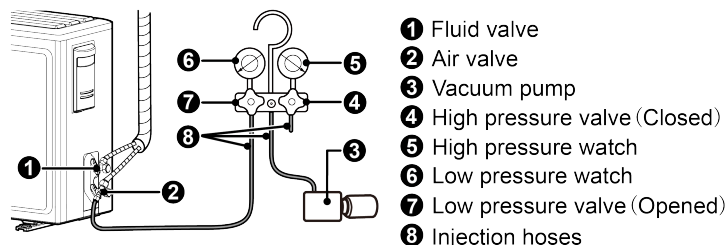

Figure 5-1 Vacuum pump connection
(1) Connect the perfusion hose with the nozzle for perfusing refrigerant. (The gas valve and liquid valve must be turned off.)
(2) Connect the perfusion hose with the vacuum pump, as shown in Figure 5-1.
(3) Totally open the low-pressure valve on the pressure gauge.
(4) Start the vacuum pump. After vacuumizing for at least 20 minutes, turn off the low-pressure valve and stop the vacuum pump when the pressure gauge indicates -1.0bar. Keep it for 2 minutes. If the pressure value does not increase, it means that vacuumization and pressure maintaining succeeds. If the value increases, it means that air gets into the system. Check whether leakage exists and vacuumize again.
(5) Remove the perfusion hose from the gas valve.
(6) Totally open the valve pin from the gas valve and liquid valve.
(7) Screw the fluoride injection mouth nut and tighten the valve caps for the liquid valve and gas valve.
(8) Tighten the valve cap and use suds or leakage detector to check whether there is gas leakage at the connection point of the outdoor unit and water tank.